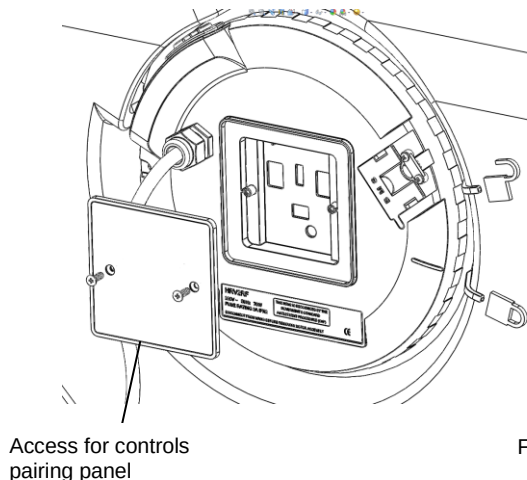

Figure 11
2.3.8 Unit Mounting for GRF1 only (See Figure 11 & 12)
- Remove the 'access for controls pairing' panel (See Figure 11) located on the flying lead side of the HRV2HT revealing the docking connector.